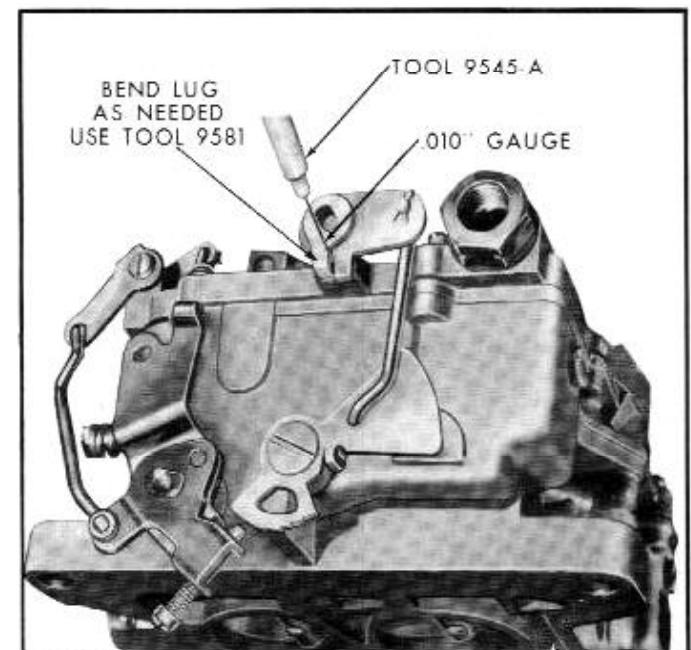

Fig. 9E-15—Choke Countershaft Lever Clearance
4. Hold choke plate tightly closed; press up on countershaft inner lever until fast idle cam stop touches boss on casting. The clearance between lug on outer countershaft lever and stop on inner countershaft lever should be .010". Use .010" gauge of Tool 9545-A (T109-200) to check clearance. See figure 9E-15. To adjust, bend lug on countershaft outer lever with Tool 9581 (T109-214).